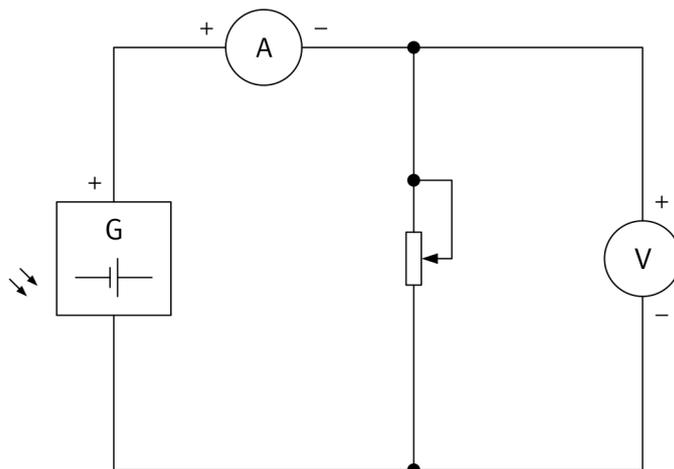

Figure 35. Circuit used to determine the characteristic U - I curve of a PV module.
14. Modify your circuit as shown in Figure 35 using the “lower” PV module and the potentiometer of the Monocrystalline Silicon Solar Panel.